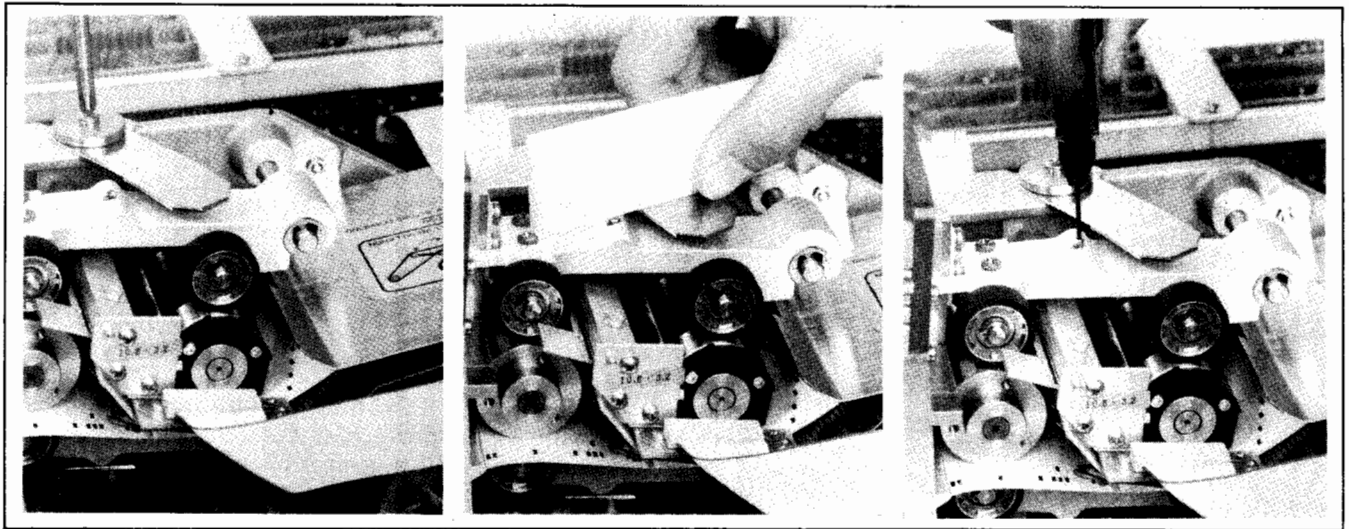

Figure 5-12. Upper Truck Spring Adjustment
- b. Position spring adjacent to adjustment screw (C).
- c. Firmly tighten spring down in this position (Screw B, Figure 5-12). Spring should not contact truck assembly.
- d. Turn screw (C) in or out until top of screw is even with top of spring. (See Figure 5-12.) Follow by returning screw (C) two turns counterclockwise ($\pm 1/8$ turn) to produce desired spring tension. (See Figure 5-12.)